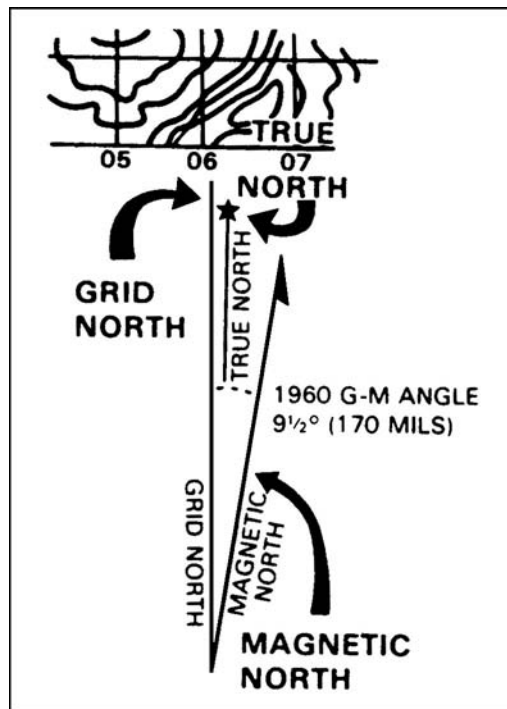

Figure 071-329-1009-1. Declination diagram
1. The north-south lines on your map give grid north. The needle of your compass points to magnetic north. Grid north and magnetic north usually differ by a few degrees. Neither points straight to the North Pole (called true North). However, you need not know true North to keep from getting lost in a combat area. The difference in degrees for every map is shown on the bottom of map sheet (figure 071-329-1009-1).
2. The difference between grid north and magnetic north is called the grid-magnetic (G-M) angle. The diagram at the bottom of the map tells you how to change grid azimuths to magnetic azimuths and magnetic azimuths to grid azimuths (figure 071-329-1009-2).